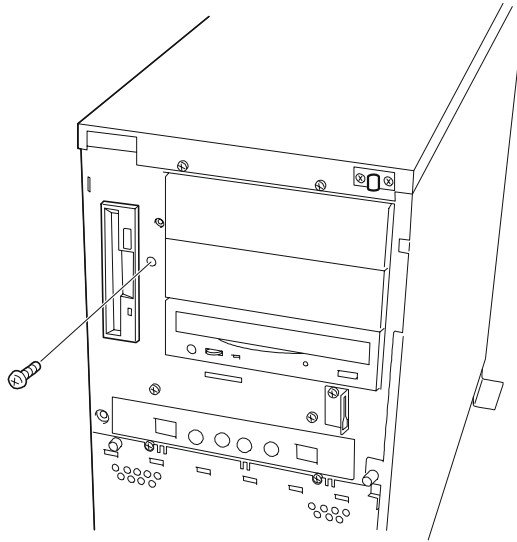

Figure 4-24. Removing the Diskette Assembly Mounting Screw
5. Remove the screw securing the diskette drive mounting bracket to the front panel. See Figure 4-24.